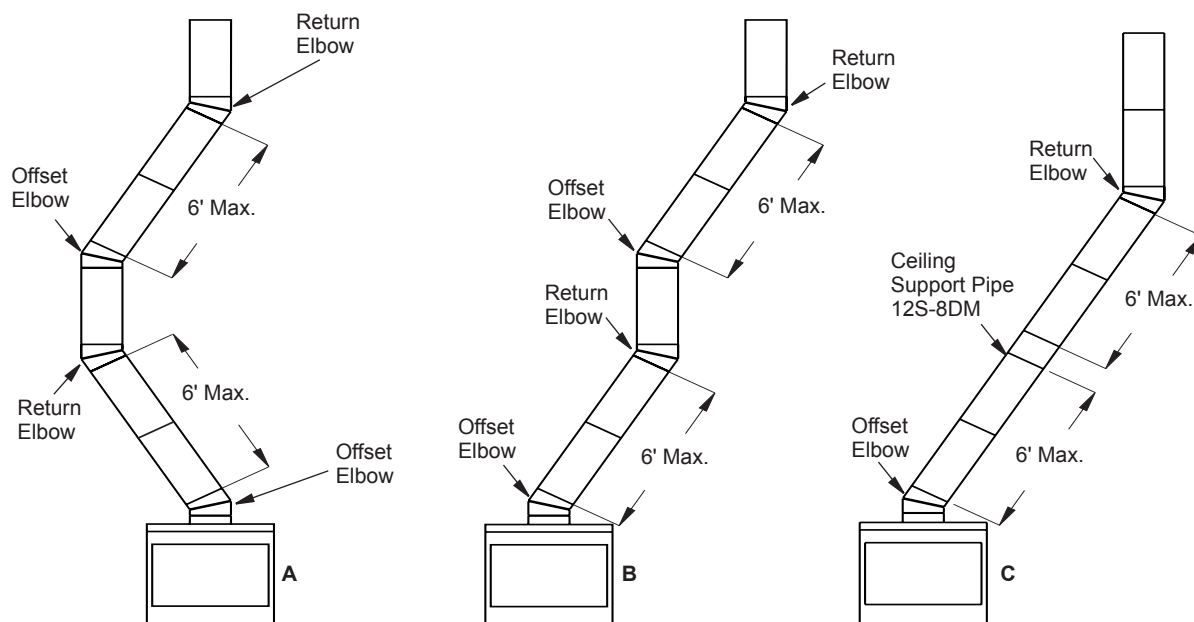

Figure 8 - Typical Offset Installation
1. To achieve desired offset, you may install combinations of 12", 18", 24", 36" and 48" length of double wall pipe (see offset chart and Figure 8).
3. Maximum length of pipe between supports (return elbow or 12S-8DM) is 6' of angle run. Maximum of two 6' angle run sections per chimney system (see Figure 8).